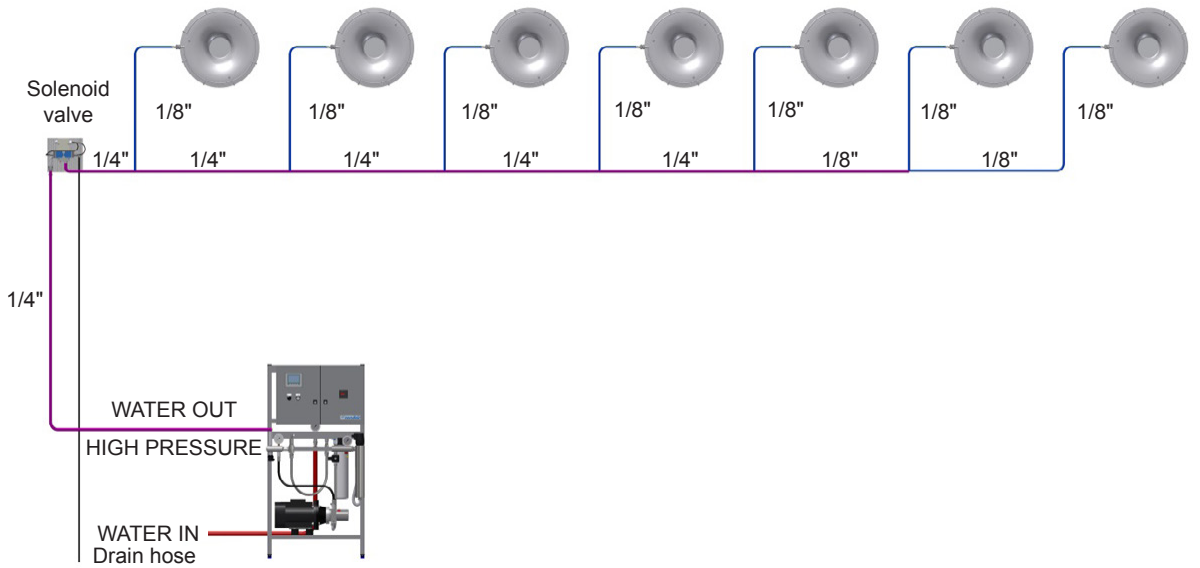
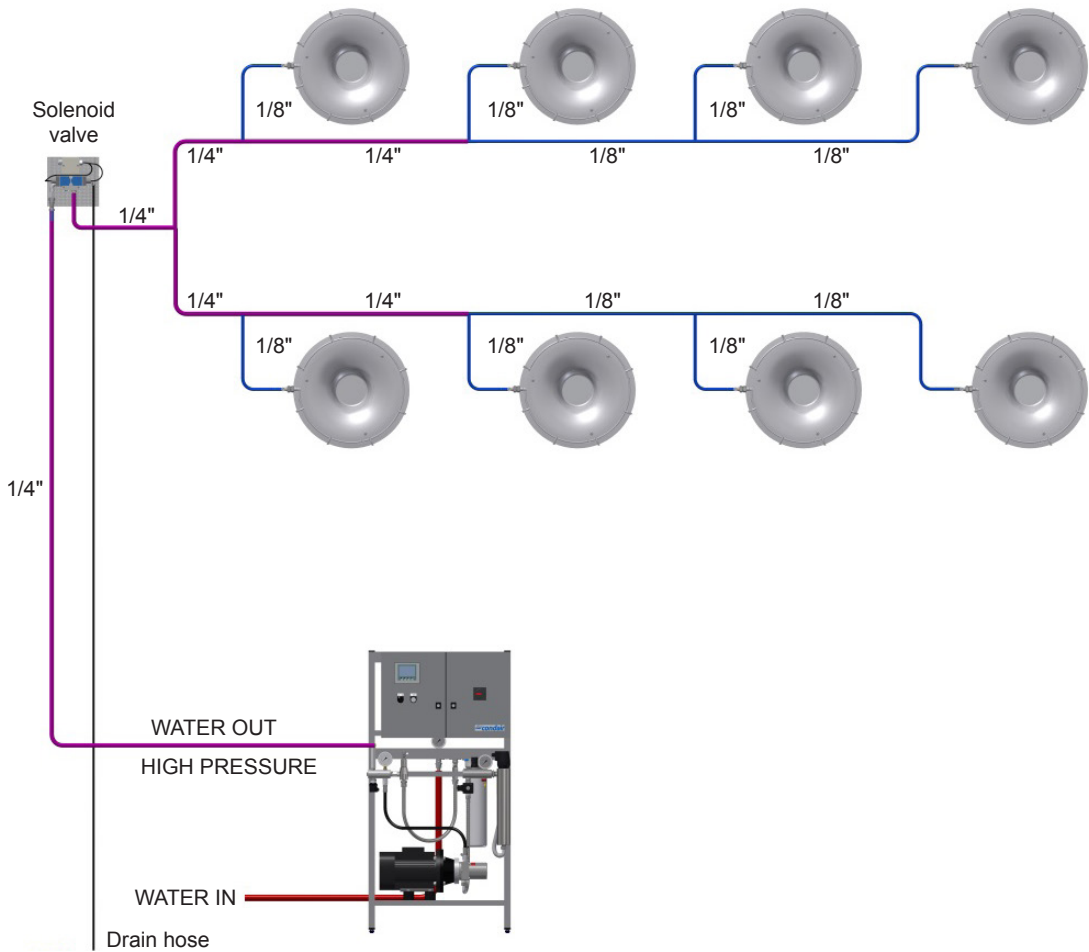
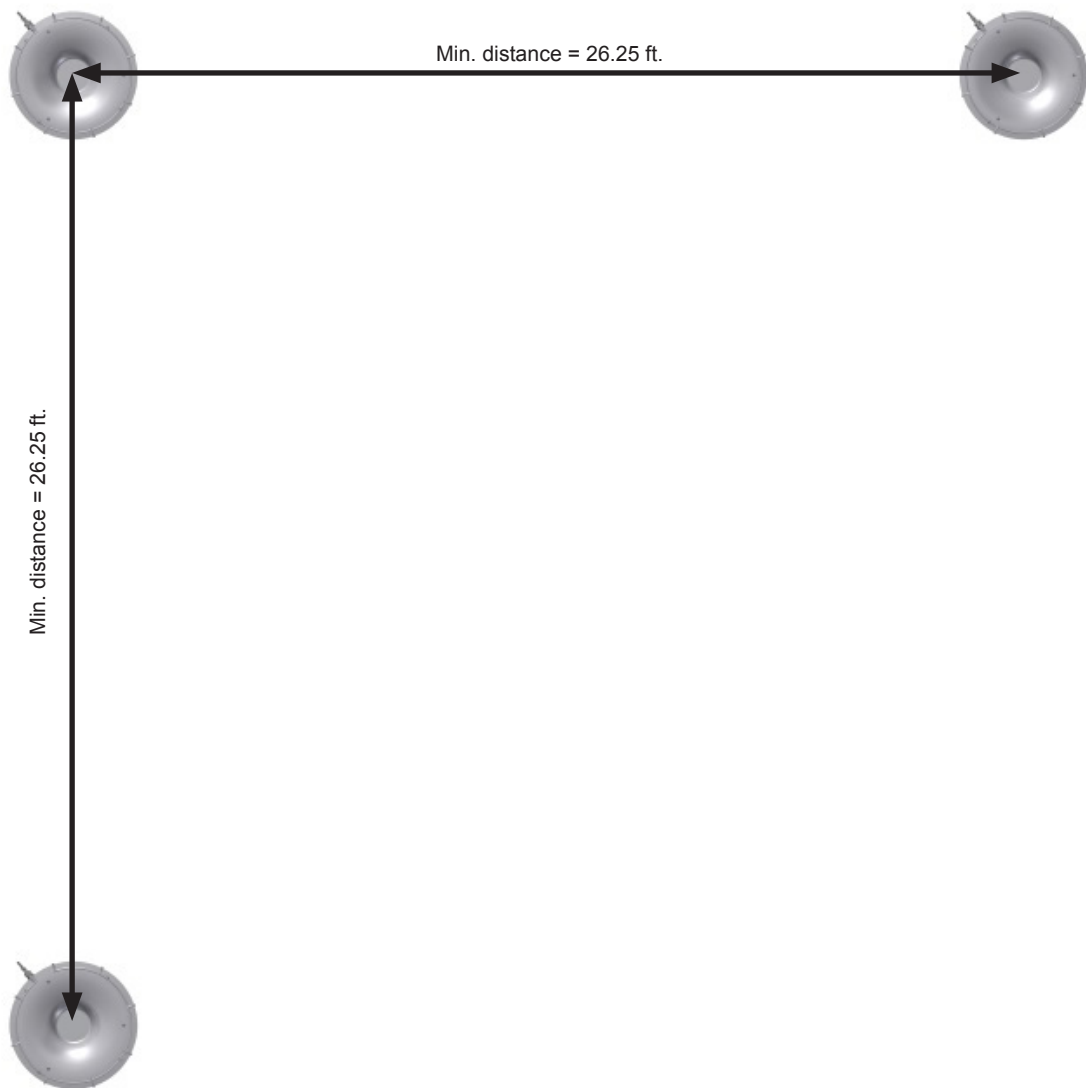
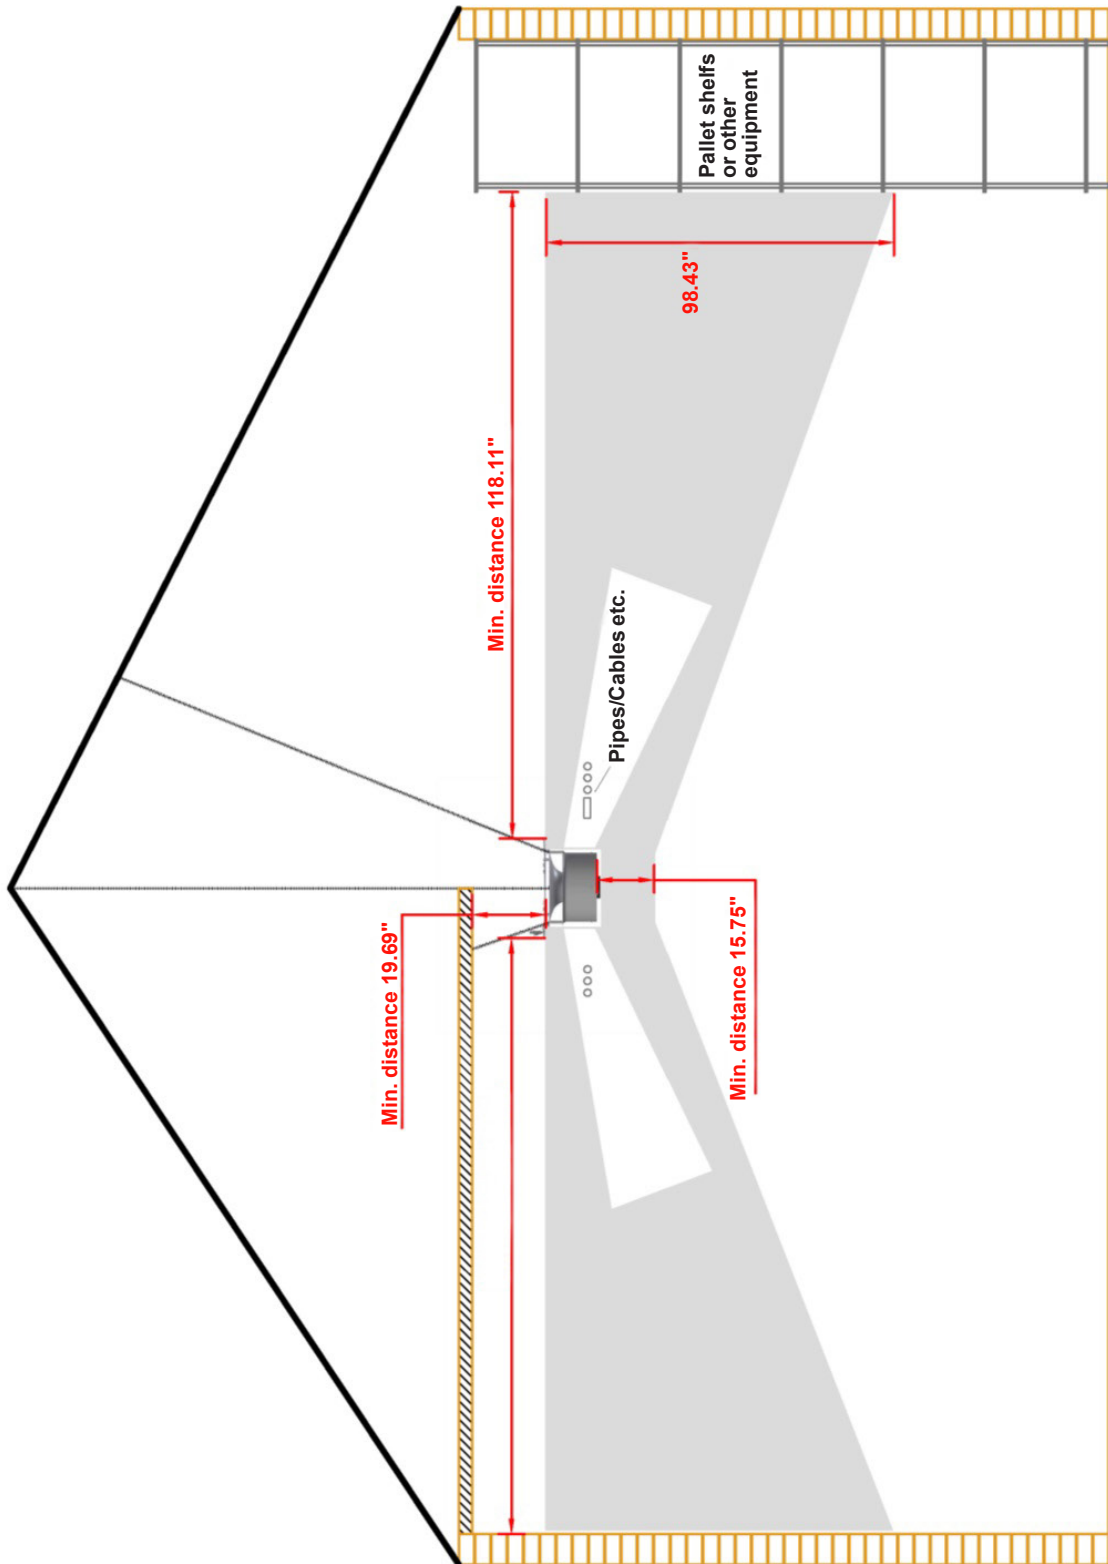

Figure 7: Hose layout inline
Figure 8: Hose layout parallel
Figure 9: Distances between modules
Figure 10: Miscellaneous mounting distances
The positioning of a system is always determined during planning and noted in the system documents. Prior to mounting the ML Princess unit, ensure that all hose layouts, distances between heads and atomization clearances have been considered and adhered to, as per Figure 7, Figure 8, Figure 9 and Figure 10.
- Figure 10 shows the recommended clearances, of the expansion of the atomization stream, and the clearances that have to be maintained. These are ideal and recommended maximum capacities using ML nozzles. Different weather, climate and indoor conditions can alter the spread and distance of the mist. As shown in Figure 9, when the nozzles and humidification heads are placed one opposite the other, make sure that a minimum distance of 26 ft. is adhered to. This will avoid the streams to condensate each other.